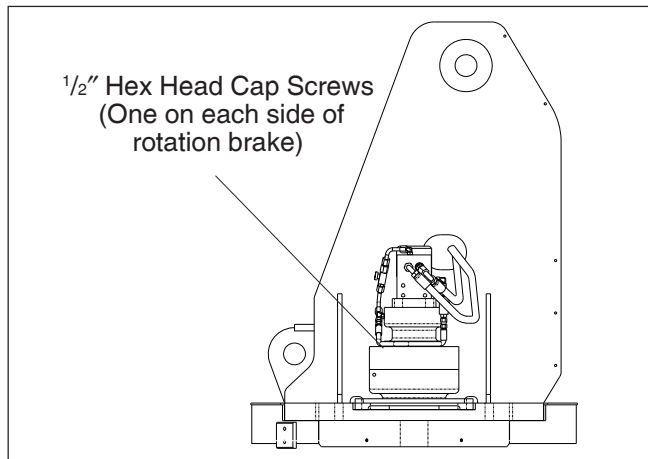

Figure 6.2 — Rotation Gearbox
2. Remove the two 1/2" hex head cap screws that hold the rotation brake to the rotation gearbox housing (refer to Figure 6.2).